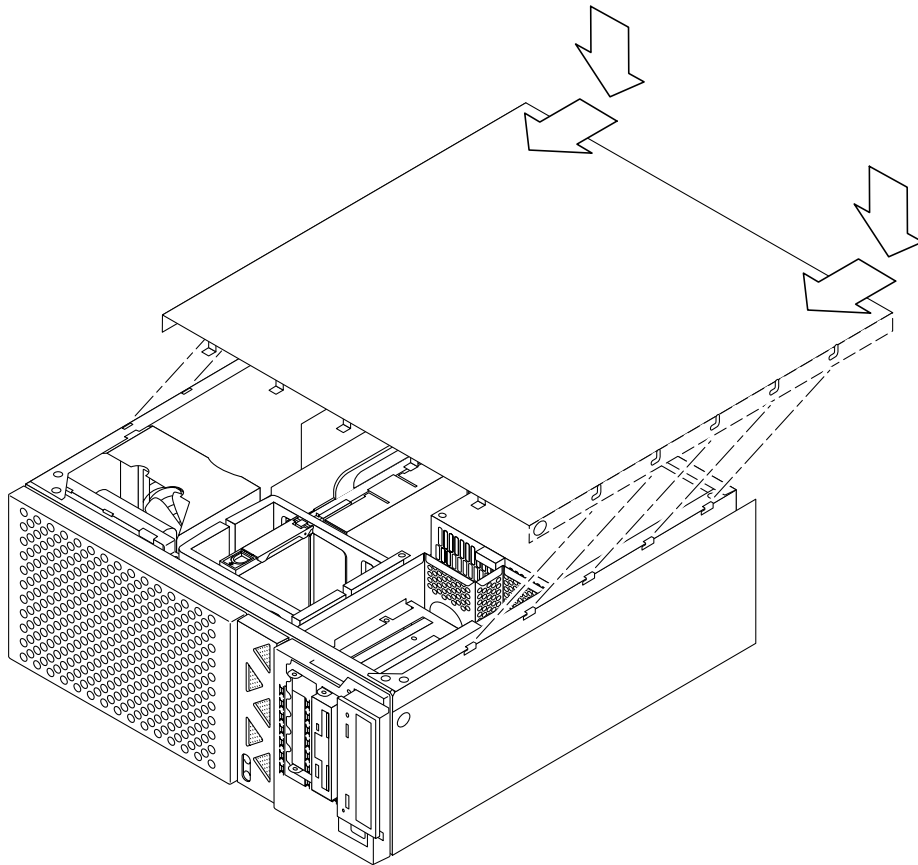

FIGURE 1-8 Lowering the Cover onto the System Unit Back Panel
1. Position the side access cover (FIGURE 1-8).